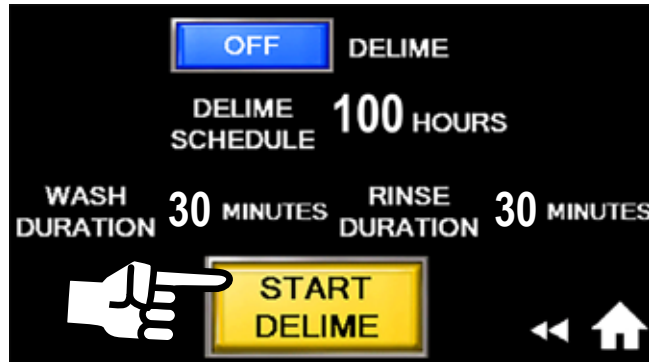

Fig. 50 - Delime Setup menu
6. Pressing "START DELIME", (Fig.50), will begin the process regardless of the notification being on or off as long as the machine is in an idle mode.
- a) Delime Setup screen, (Fig. 50).